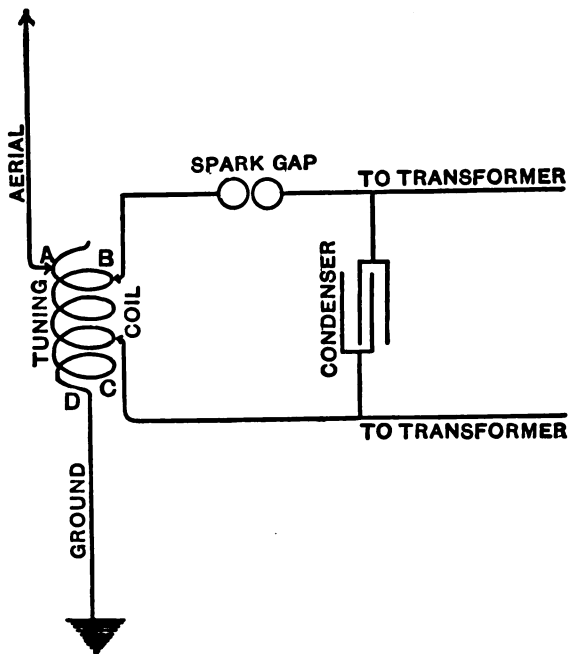
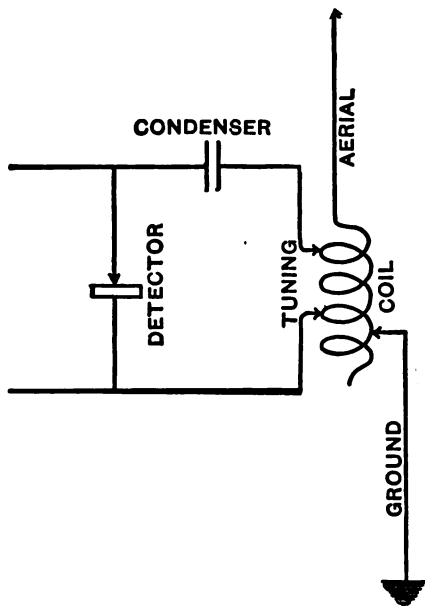

FIG. 165.—COUPLED OPEN AND CLOSED OSCILLATION CIRCUITS FOR TRANSMITTING.
FIG. 166.—COUPLED OPEN AND CLOSED OSCILLATION CIRCUITS FOR RECEPTOR.
There are different ways by which the aërial and ground wire can be coupled with a closed circuit, but the way we have chosen for the long distance set is that shown in Fig. 165 for the transmitter and Fig. 166 for the receptor. Joining the circuits together in this fashion is called a *direct*, or *conductive coupling*.
The ends of the secondary coil of the transformer are connected with the Leyden jar condenser and this condenser is charged (and discharged) every time the current changes its direction. Also every time the condenser is charged it discharges through the spark-gap and the turns of the tuning coil which are between the clips B and C, as in Fig. 165.
**Action of a Tuned Receptor.**—When the electric waves which are radiated, that is sent out by the aerial of a transmitter, strike the aerial connected with a receptor (see Fig. 166), the electric waves are changed into electric oscillations, and if the circuits of the receptor are tuned to the circuits of the transmitter the oscillations will have exactly the same frequency as those in the aerial of the transmitter which sent them out.